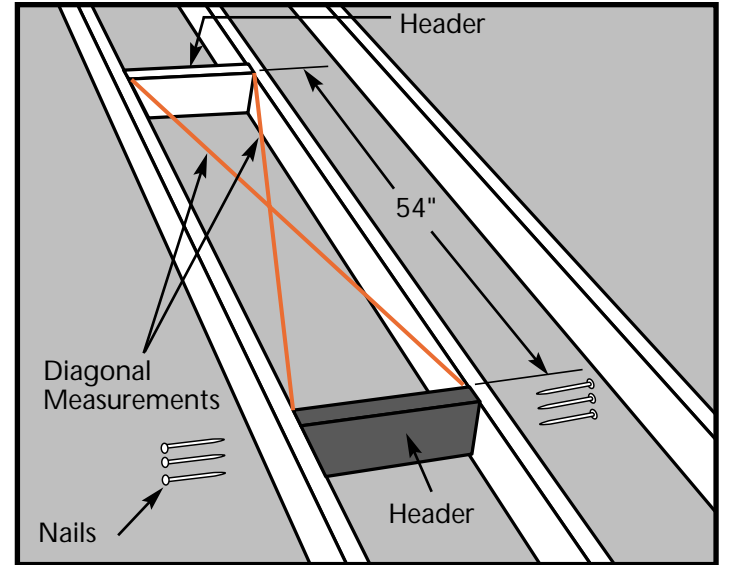

Figure 14
- STEP 5. Position the second header 54 inches from the first one and repeat Step 4 (Figure 14).
- STEP 6. The frame for the rough opening requires four sides. The headers make up two of those sides. If your ceiling joists are spaced so that they make up the other two sides of the rough opening, check the opening for squareness by measuring across the diagonals. The measurements should be within 1/8" to be considered square (Figure 14).